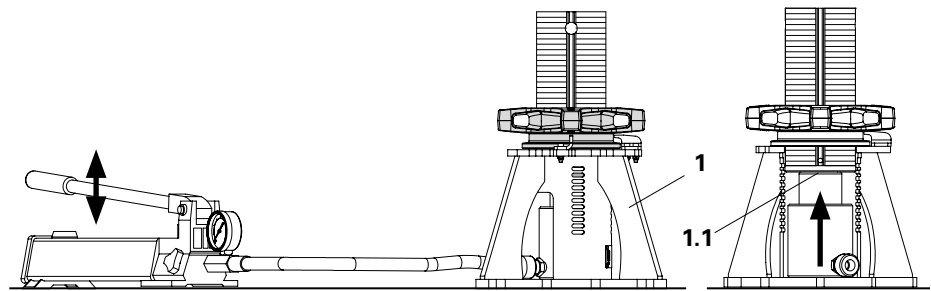

Fig. A5.06
1. Insert the hydraulic cylinder into the lowering jack (1).
2. Operate the pump lever until the cylinder rests on the red pressure piece (1.1) of the spindle tube. (Fig. A5.06)